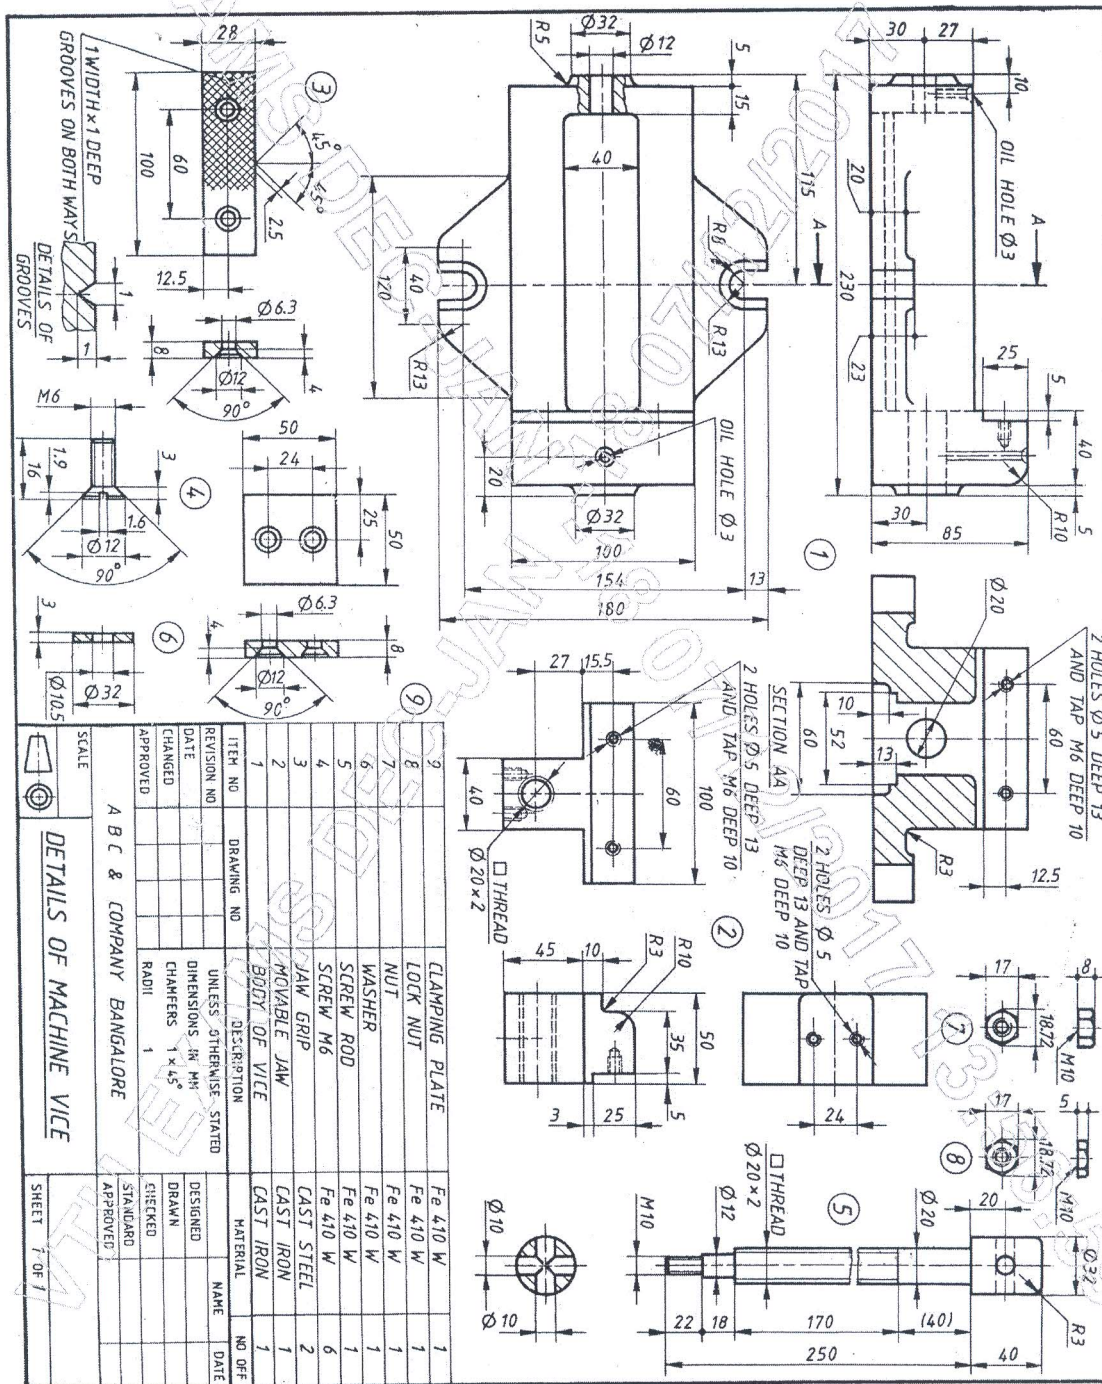

Figure 2. MACHINE VICE
- Q.No.5** Details of MACHINE VICE is shown in following Figure 2. Assemble the parts and draw the following views.